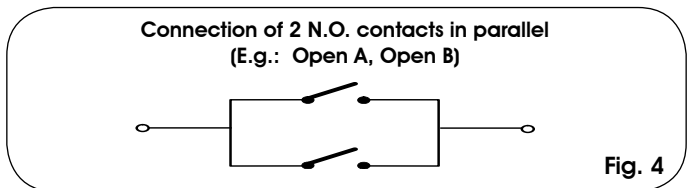

Fig. 4
**!** If two or more safety devices with N.O. contacts have to be connected, put them in parallel with each other (see fig.4).
*To install several total opening pulse generators, connect the N.O. contacts in parallel (see fig. 4).*